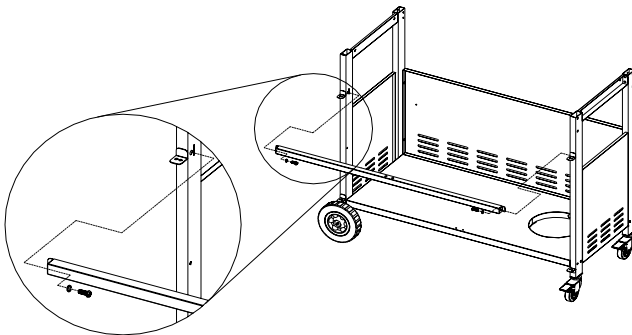

Figure 6
1. Attach the front cart frame beam to the grill cart using (2) 1/4 x 3/8" Phillips head screws and (2) 1/4" lock washers. (Fig.6)